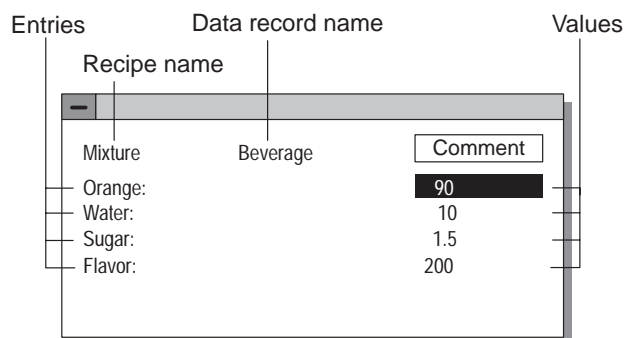

Figure 8-4 Data record editing window
- Comment** Enter a comment in respect of the data record to be edited. The comment entered is only accepted when the data record is stored on the data medium. It is not accepted if the data record is saved a second time. In this case, the comment must be entered in the Edit window (refer to Figure 8-4 on Page 8-10).
6	Enter the respective values in the edit window (Figure 8-4). Confirm each entry by pressing:
5	Modify the values in the edit window (Figure 8-4). Confirm the change by pressing:
The entries of the selected data record are listed in the Edit window (Figure 8-4). Each line contains the configured name on the left and the editable value of the entry on the right.